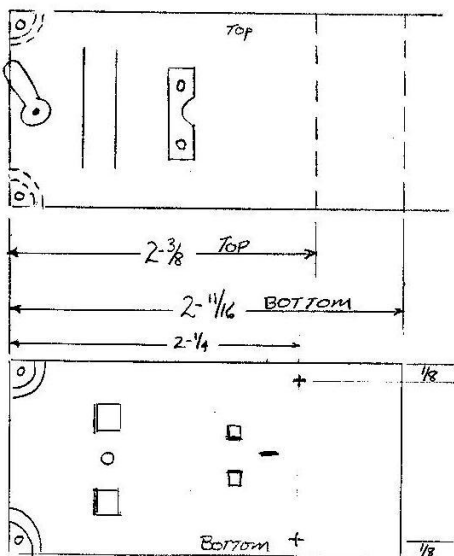

Figure 1
- 3) With the coil to the right and the track clamp to the left, measure 2-3/8 inches from the clamp side and cut the top piece at this mark. Please refer to Figure 1.
- 4) With the coil to the right and the clamp to the left, measure 2-11/16 inches from the clamp side and cut the bottom piece at this mark. Please refer to Figure 1. The piece which you have cut will be referred to as the "coil piece".
- 5) From the clamp side of the bottom piece, measure 2-¼ inches along both long sides and make a mark 1/8 in from each side. At this mark, drill a 1/8 inch hole. Please refer to Figure 1.